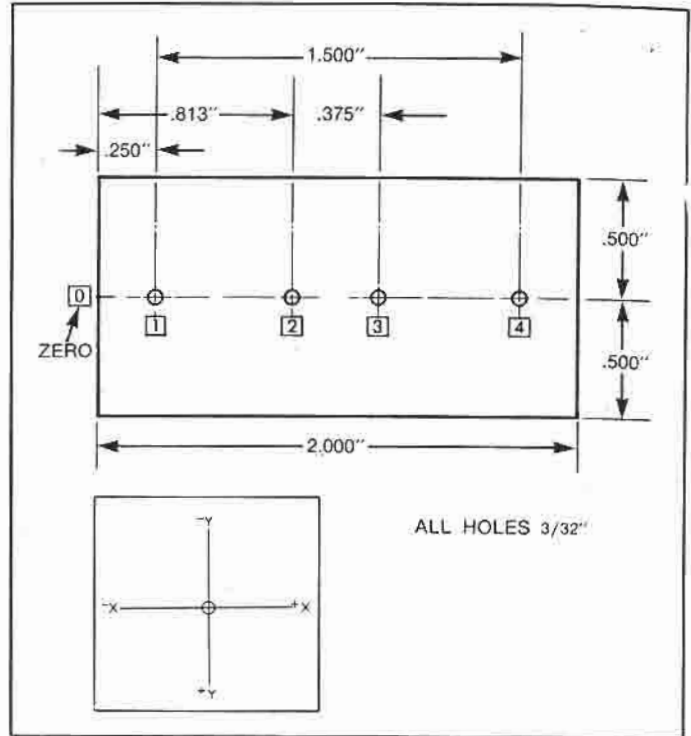

Figure 5-1. Workpiece Example (Dimension/Step # /Store)
Using the PRO to indicate required tool movements, mill the series of holes illustrated in Figure 5-1 for 8 workpieces.
- a. Sequentially number all points to which measurements are made; that is, the hole centers. Point 0 is the zero reference (start) point over which the center point of the tool is positioned (see Figure 5-1).
- b. Draw Axis Coordinate System (Figure 5-1, inset) including polarity signs.